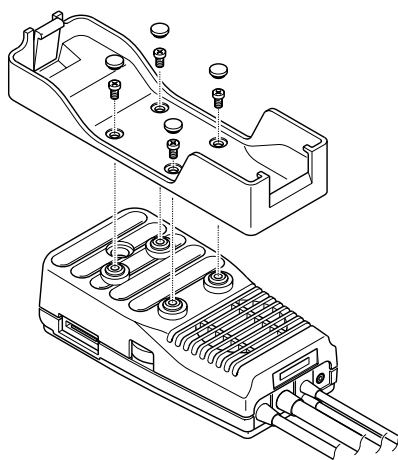

Figure 18: holder removal
1. Figure 18 Remove the holder from the handsfree unit 4 screws